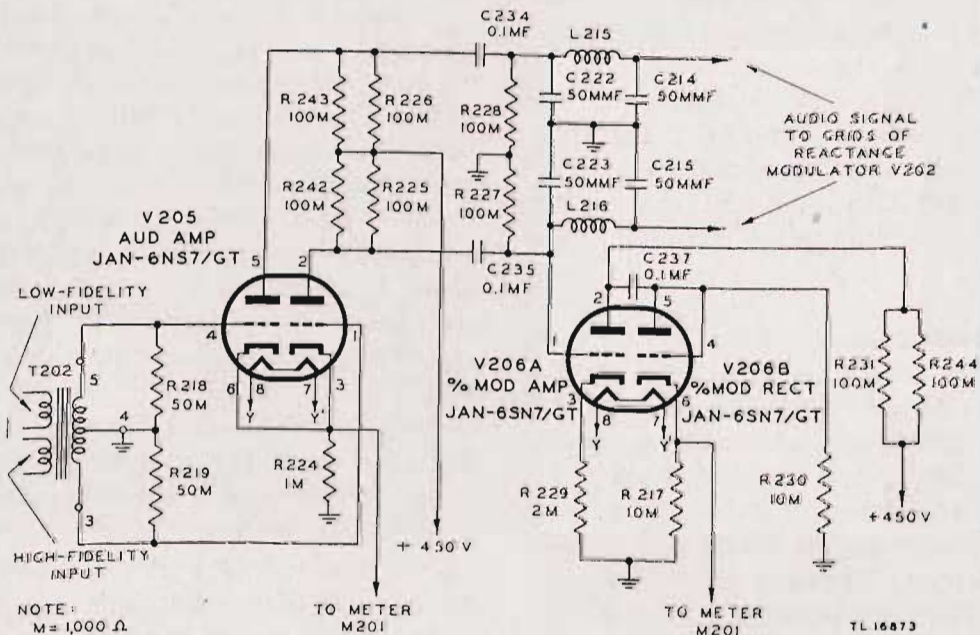

Figure 77. Radio Transmitter T-30/TRC-8 (XC-3), functional diagram of audio and percent modulation amplifier.
a. The secondary winding of T202 is center-tapped and is terminated by 50,000-ohm resistors R218 and R219, and then connects to the grids of Tube JAN-6SN7/GT (V205) which is operated as a push-pull audio amplifier (fig. 77). The cathodes of the amplifier are tied together and connected through 1,000-ohm resistor R224 to ground, and also connected to the AUDIO AMP. position of the meter switch where the cathode voltage is indicated on the panel meter. The cathode current flowing through R224 produces a voltage drop which makes the cathodes 10 volts positive and provides cathode bias for the tube.
From capacitor C235 the audio signal is also coupled to a grid of Tube JAN-6SN7/GT (V206A), percent modulation amplifier (fig. 77). One half of the dual triode serves as an audio amplifier and the other half of the tube is a half-wave rectifier. The rectified output is indicated on meter M201 when meter switch S201 is in the % MOD. position. The amplifier section of tube V206A is a conventional resistance-coupled amplifier. The 2,000-ohm resistor R229 furnishes cathode bias. The high voltage is fed through resistors R231 and R244, two 100,000-ohm resistors in parallel, making the total plate resistor 50,000 ohms. The 0.1-mf capacitor C237 couples the signal from the output of the amplifier section to the diode (plate and grid tied together) section, V206B. The 10,000-ohm resistors R230 and R217 are diode load resistors. A connection is made from the cathode to meter M201 through the meter switch so that percentage of modulation is indicated when the switch is in the % MOD. position.
50 mmf, and is connected to ground through 500 ohm resistor R212, which furnishes cathode bias. The cathode is also connected to meter M201 through the meter switch so that cathode voltage is indicated on the meter when the switch is in the MOD. position. Resistors R227 and R228 (fig. 77), 100,000-ohms each, serve as grid resistors for the reactance modulator tube which is adjusted to operate linearly, that is, to make the reactance variation proportional to audio input.